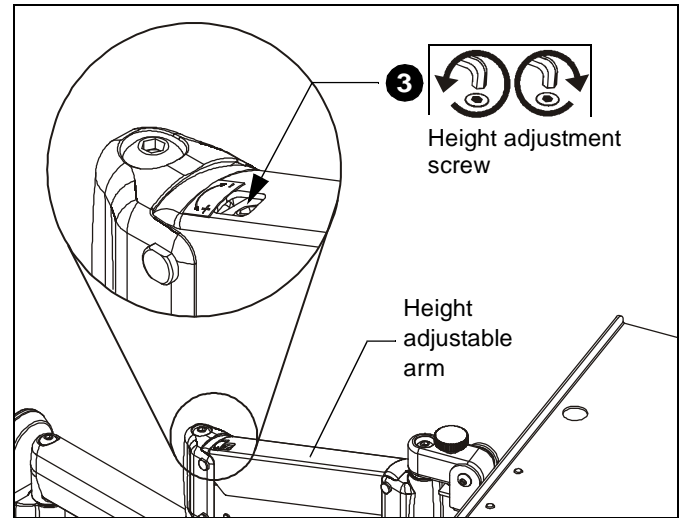

Figure 48
3. Slightly loosen or tighten the height adjustment screw as necessary, using the 5/32" hex key (AA). (See Figure 48)